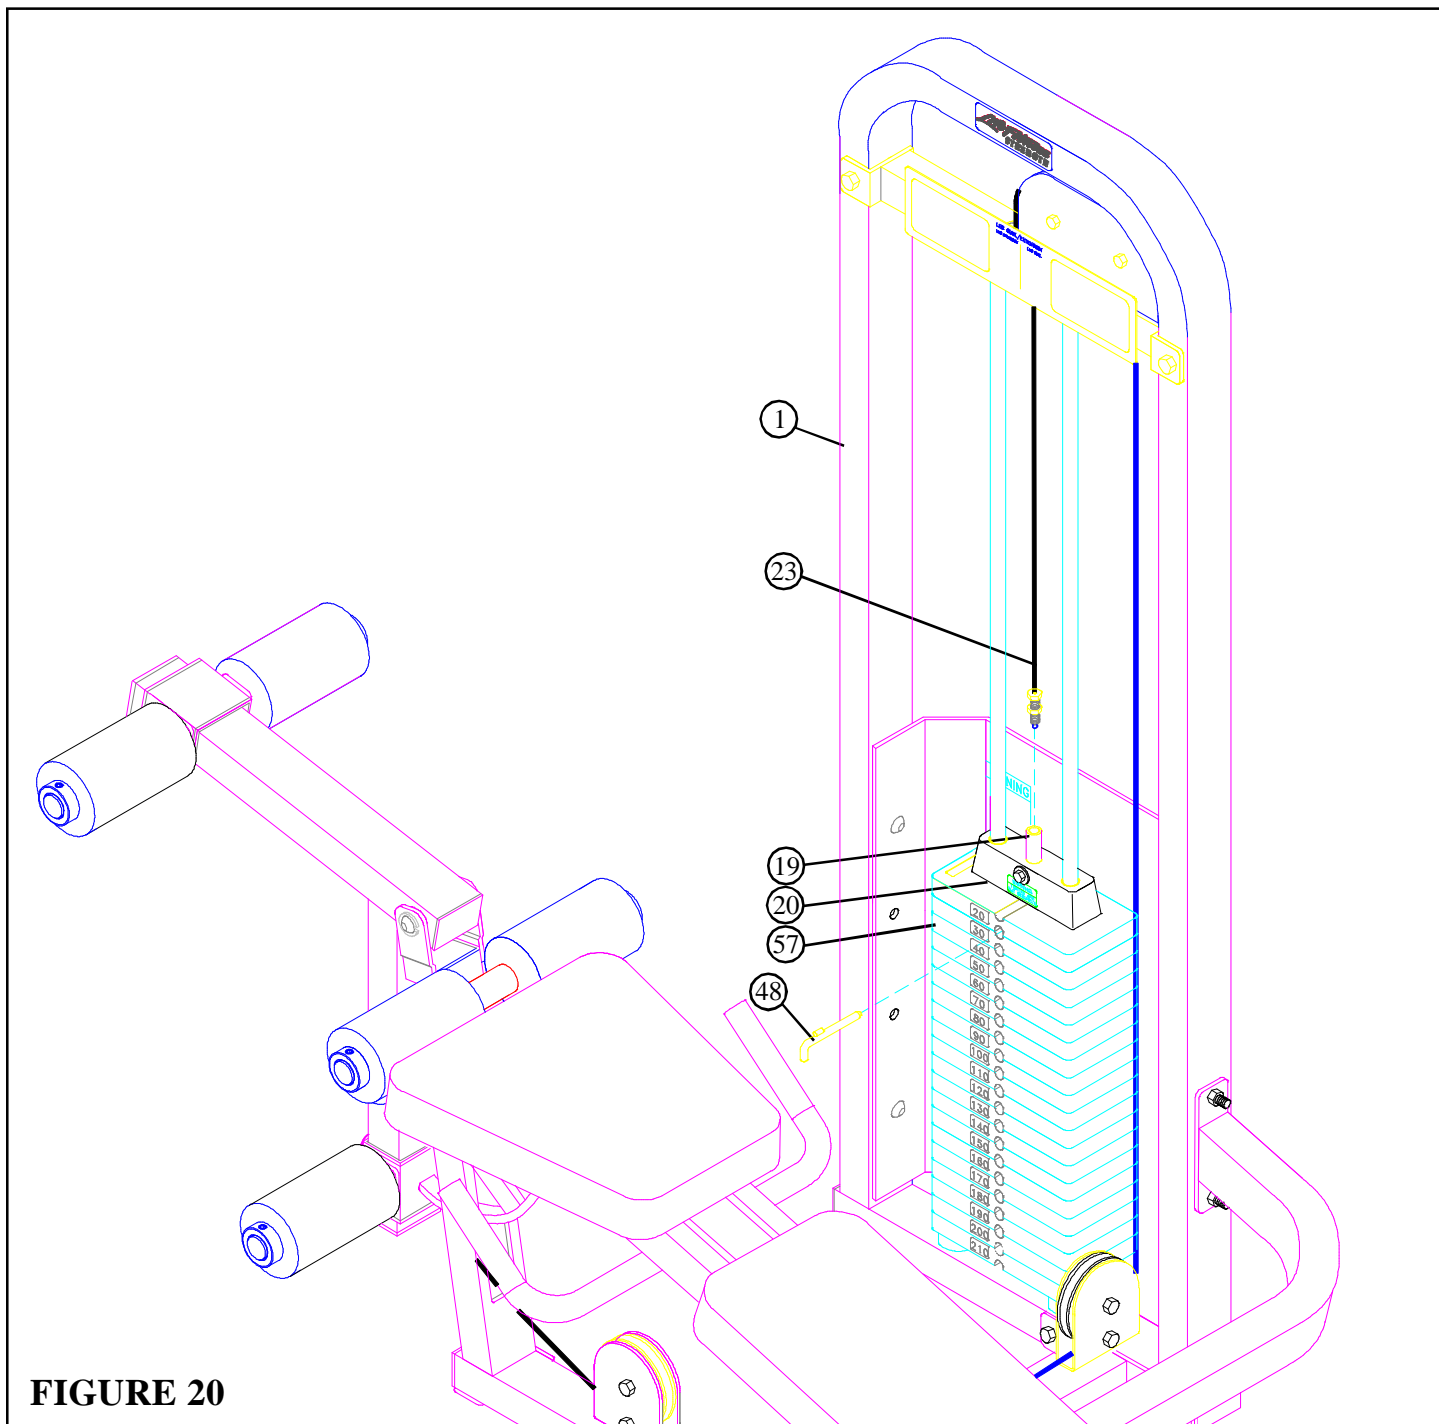

FIGURE 20
- Screw the threaded end of the CABLE (23) approximately 3/4" into the end of the WEIGHT STACK SHAFT (19) and tighten jam nut securely. See FIGURE 20.
- If the HEAD PLATE (20) does not sit on top of the first WEIGHT PLATE (57), push the head plate down, insert the SELECTOR PIN (48) and perform several repetitions on the machine. This will relax the cable system and prevent the HEAD PLATE (20) from lifting up.
- If after completing the previous step the HEAD PLATE (20) still does not sit on top of the first WEIGHT PLATE (57) or if there is excess slack in the cable system, adjust the threaded end of the CABLE accordingly and retighten the jam nut.